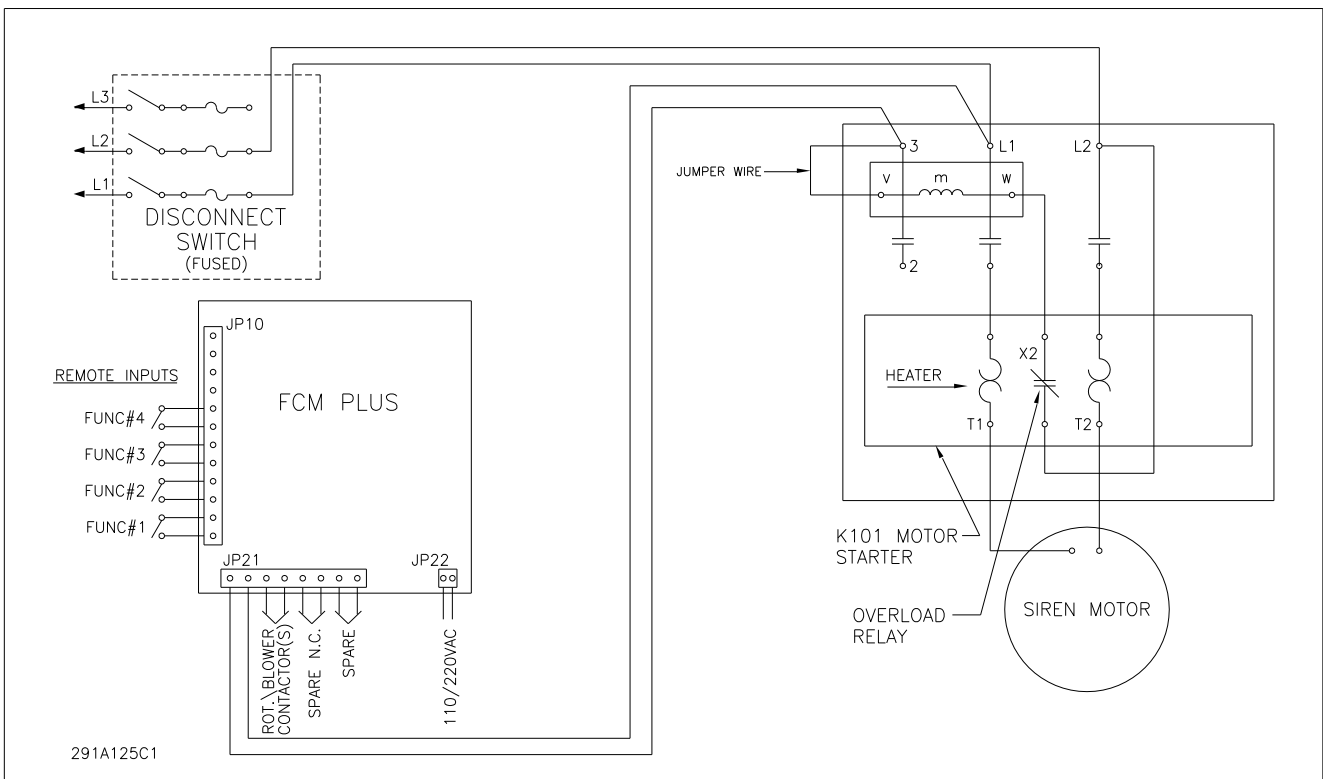

Figure 3-4. RC2W Electrical Connection
The power and control circuitry of a typical Model 2 installation is shown in figure 3-4. The schematic diagram of the Model RC2W Motor Starter is also shown in the figure.
To connect the motor starter and siren to the power source and control circuitry, proceed as follows (see figure 3-4):
7. Connect the FC to terminals L1 and 3 in the motor starter. See figure 3-4.
As shown in figure 3-4, the motor starter includes an overload relay. The relay protects the motor starter and the motor in the event that excess current is drawn. The overload relay is activated when there is sufficient current through one or more of its heaters to cause the heater(s) to expand enough to open the relay contacts. The opening of the relay contacts opens the motor starter control circuit. As a result the motor starter de-energizes, protecting the circuit against damage. After the motor starter de-energizes, the relay contacts reset automatically when the heater(s) cools sufficiently. The overload relay can also be reset manually after approximately one minute.